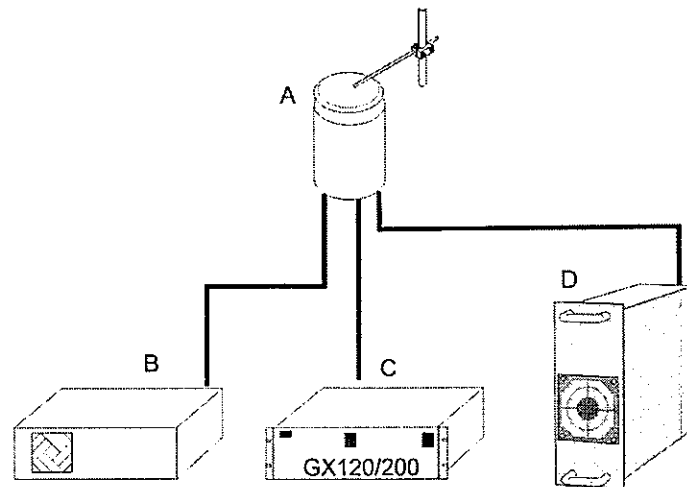

Fig. 1-5
- The APSprö must only be used in conjunction with the following equipment components (see illustration Fig. 1-5, 14).